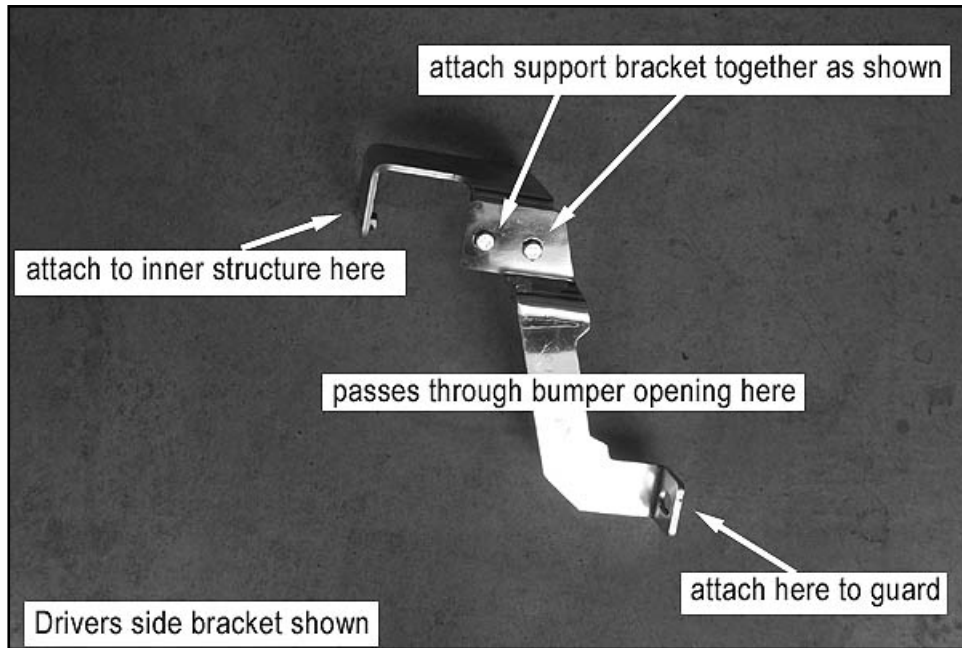
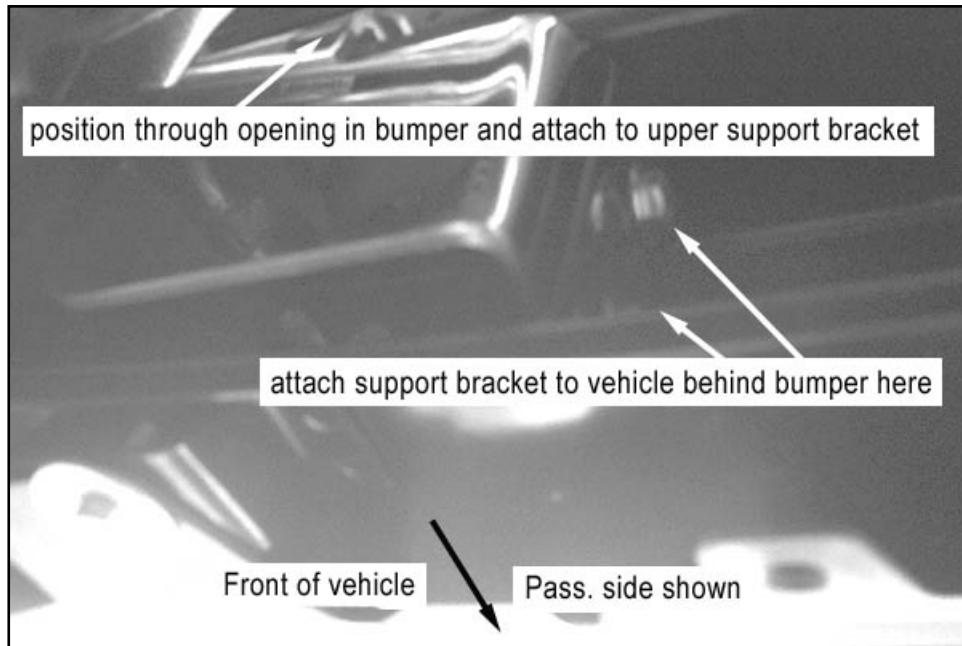

Fig. 3
Fig. 4
3. Attach and secure Upper support Bracket to vehicle as shown in Fig. 3-5 Take a minuite to review fig.3 and familiarize yourself with its mounting locations. Refer to Fig.4 for mounting to chassis.